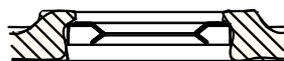

Fig. 12.24
- Fit the lip seal (P104) into the adaptor stool in the orientation shown in Fig. 12.24